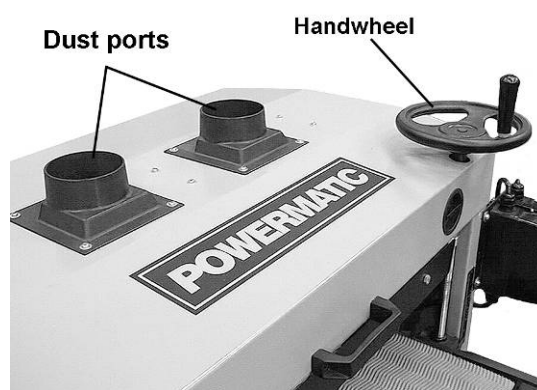

Figure 7
3. The handwheel assembly, used for raising and lowering the conveyor table, is designed to be mounted and removed quickly. Set the handwheel assembly down into the hole of the hood (Fig. 7) and rotate it until it seats itself upon the pins of the leadscrew below.
Mount the two dust ports to the top of the hood with eight 3/16 x 1/2 screws and eight flat washers (Fig. 7).